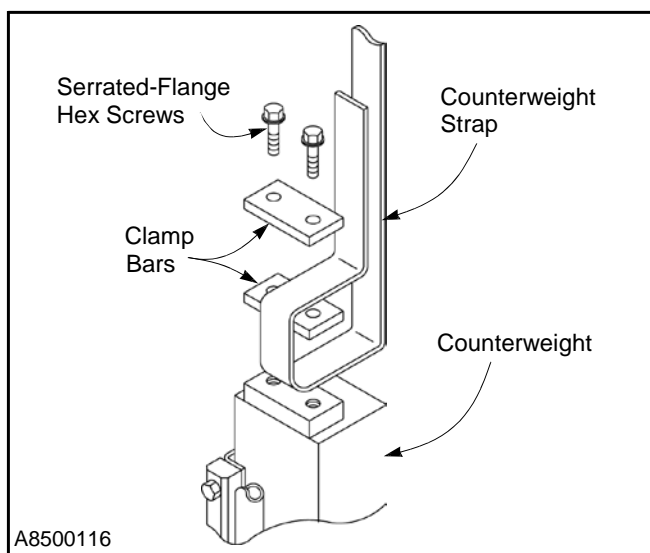

Figure 51
13. Attach the new strap to the counterweight by routing the strap through the clamp bars in the same manner as the old strap. Tighten the hex screws to clamp the strap to the weight. (See Figure 51)